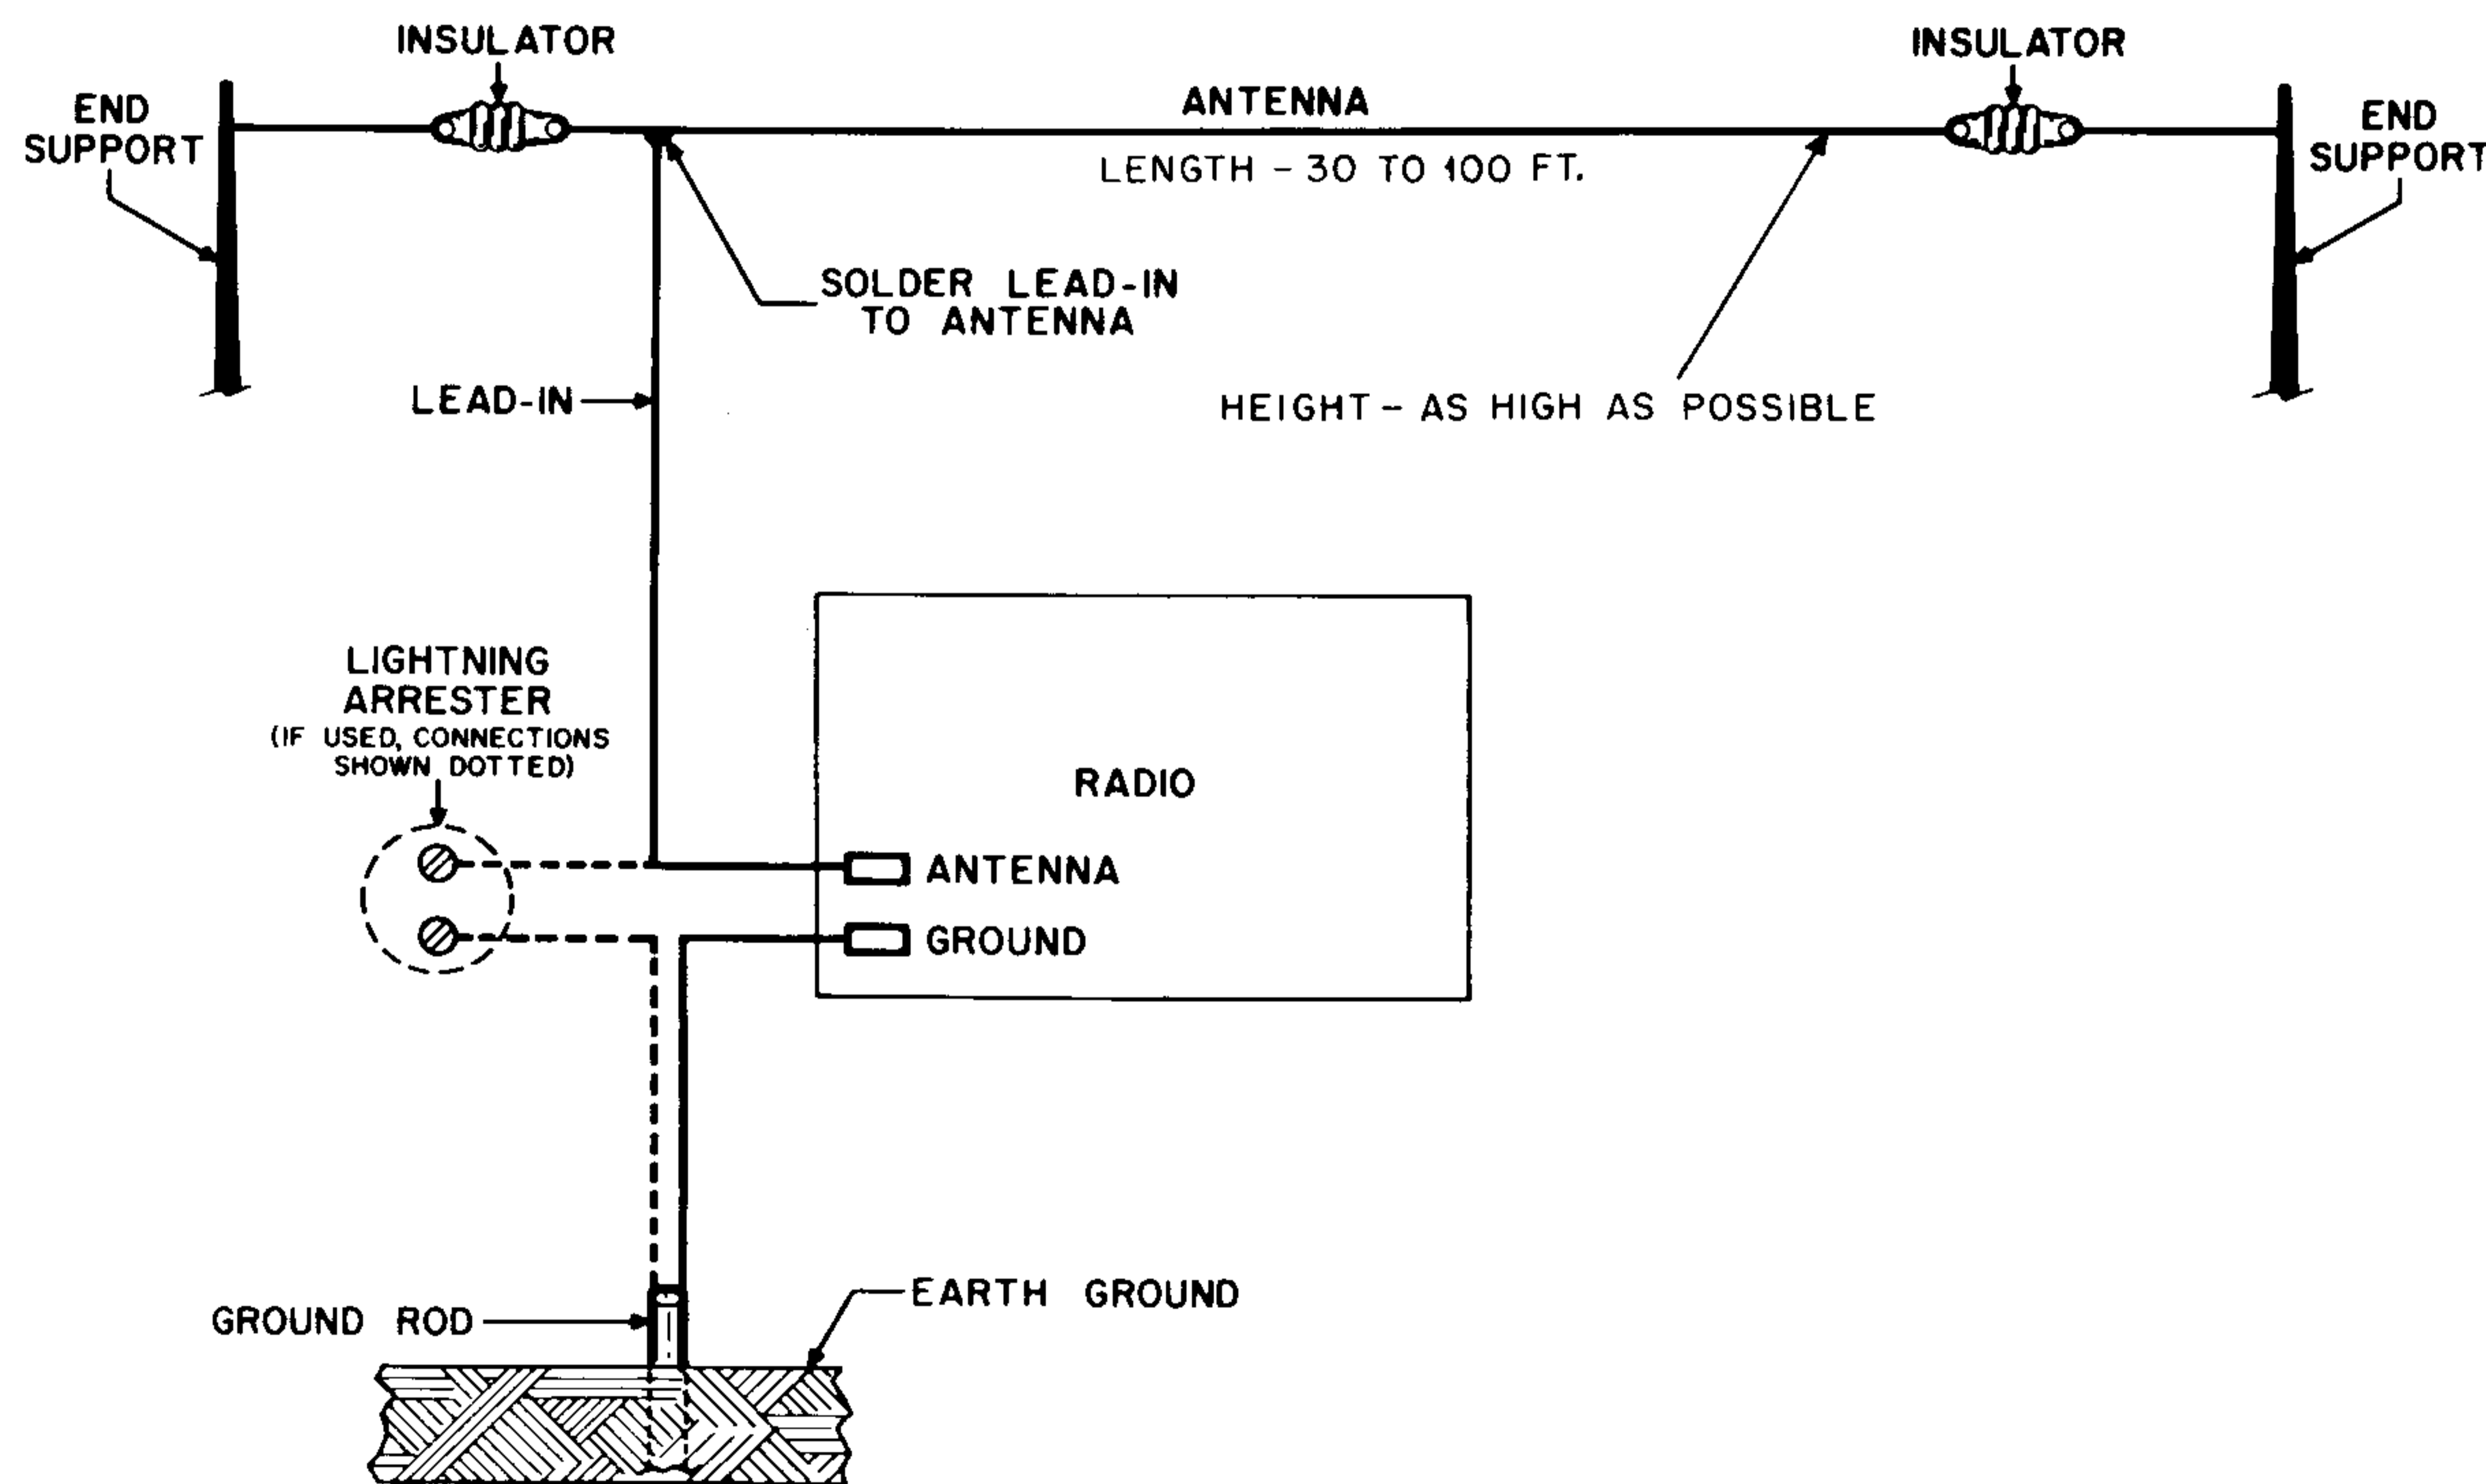

FIGURE 12. HOW TO INSTALL AN OUTDOOR ANTENNA
- See Figure 12. Connect a single wire antenna to the terminal stamped "A" on the back panel. A good antenna is all important. In some areas reception can be improved by connecting a ground wire to terminal "G". Connect the other end of the ground wire to a water pipe or ground rod.